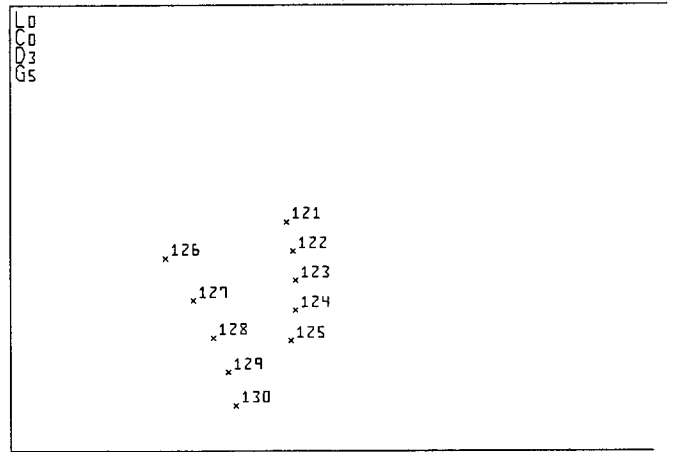

Figure 4
Step 6: Create a row of outer nodes for the first blade (Figure 4)